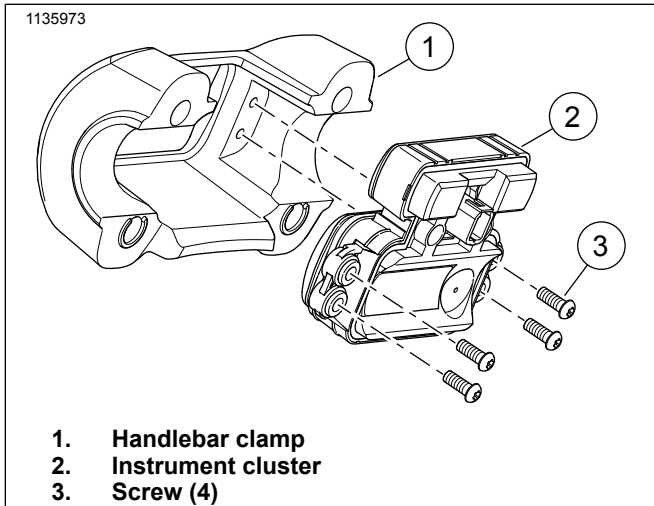

Figure 1. Instrument Cluster
1. See Figure 1. Place instrument cluster (2) in handlebar clamp (1).
2. Install screws (3). Tighten.